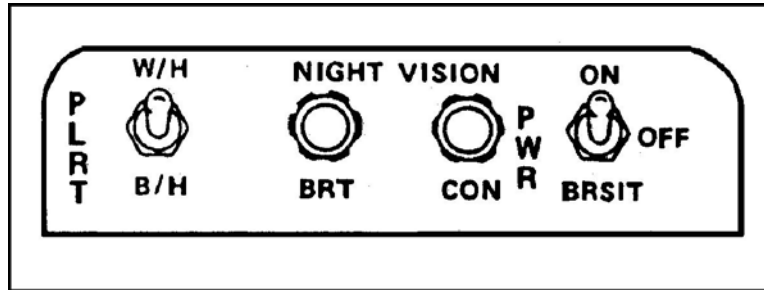

Figure 8. Nightsight controls.
22. Adjust the nightsight controls for a clear view of the aiming point image on the target (Figure 8).